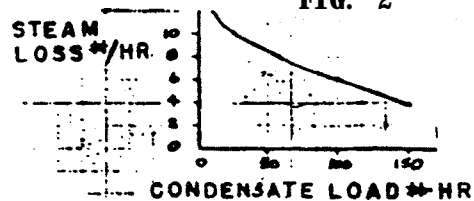

FIG. 4
- 3) Low load applications tend to create high steam loss through trap. Small slugs of condensate can unseat the ball causing steam to leak through the trap. See Fig. 4.